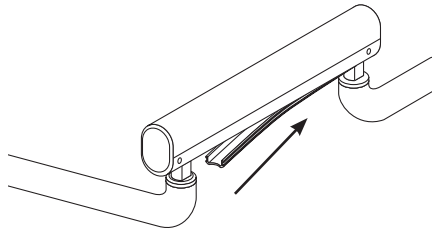

Figure 22. Install the Flex Arm Cover
6. Reinstall the flex vinyl cover (see Figure 22). The cover is easily snapped back into place. Start by inserting one end of the cover into the arm and press it into place along the bottom of the arm.